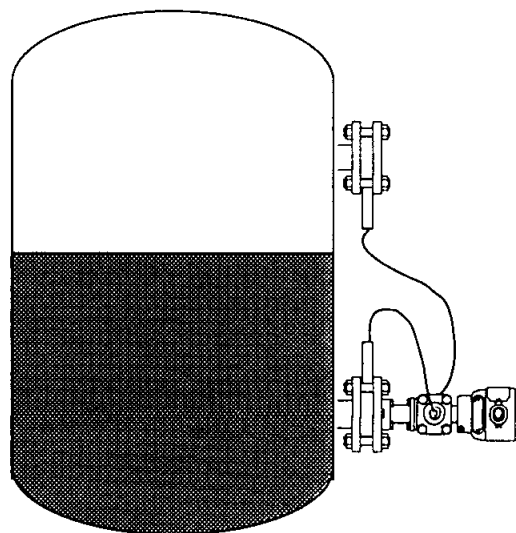

Figure 14.9 Installation on Process Side Flange No. 2
- (4) Mounting the other transmitter side flange on the process flange
Mount the other transmitter side flange on the process side flange. (Refer to Figure 14.9 and (2) ① and ②.)